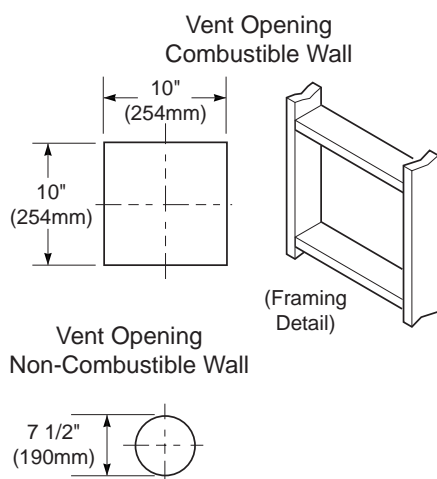
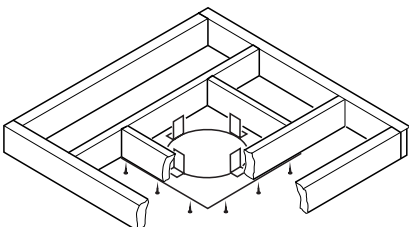

Figure 17 - Vent Opening Requirements
Figure 25 - Installing Firestop
3. Attach vent pipe assembly to the fireplace. Set fireplace in front of its permanent location to insure minimum clearances. Mark the wall for a 10" square hole (for noncombustible material such as masonry block or concrete, a 7 1/2" diameter hole is acceptable). See Figure 17. The center of the hole should line up with the centerline of the horizontal rigid vent pipe. Cut a 10"x10" (254mm x 254mm) square hole through combustible exterior wall (7 1/2" [190mm] diameter hole if noncombustible). Frame as necessary (see Figure 17).
1. Cut a 10" square hole in the ceiling using the locating hole as a center point. The opening should be framed to 10"x10" (254mm x 254mm) inside dimensions, as shown in Figure 17 on page 9 using framing lumber the same size as the ceiling joists. If the area above the ceiling is an insulated ceiling or a room, nail firestop from the top side. This prevents loose insulation from falling into the required clearance space. Otherwise, install firestop below the framed hole. The firestop should be installed with no less than three nails per side (see Figure 25).
3. Cut a hole in the roof using the locating hole as a center point. (Cover any exposed open vent pipes before cutting hole in roof.) The 10"x10" hole must be measured on the horizontal; actual length may be larger depending on the pitch of the roof. There must be a 1" clearance from the vent pipe to combustible materials. Frame the opening as shown in Figure 17 on page 9.